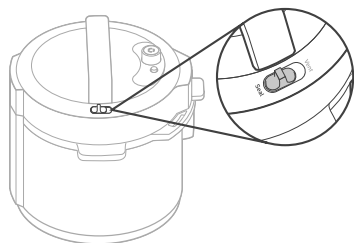

Figure 1.1
- When cooking with a pressurised cooking function, the steam release switch will automatically move to 'Seal' when closed. **[Figure 1.1]**